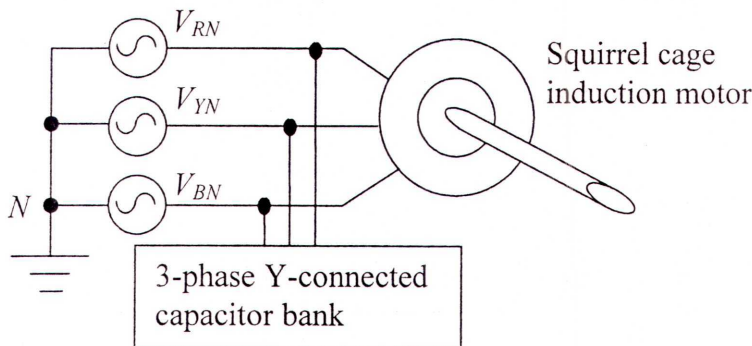

Fig. Q6(a)
- (I) Calculate the rotor resistance r_r .
- (II) In order to improve the source power factor to unity, a three-phase star connected balanced capacitor bank is connected in parallel with this motor as shown in Fig. Q6(a). Find the value of per phase capacitor (in μF) required when the motor is operated with full load output torque. [7.5+7.5]